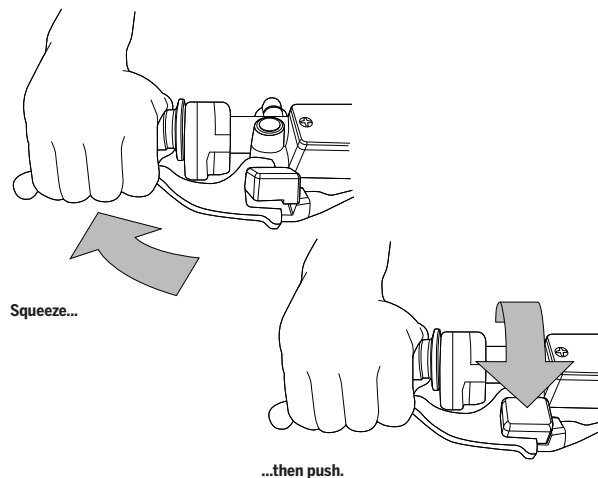

Figure 31: Engage the Parking Brake
4. Engage the Parking Brake (**Figure 31**).